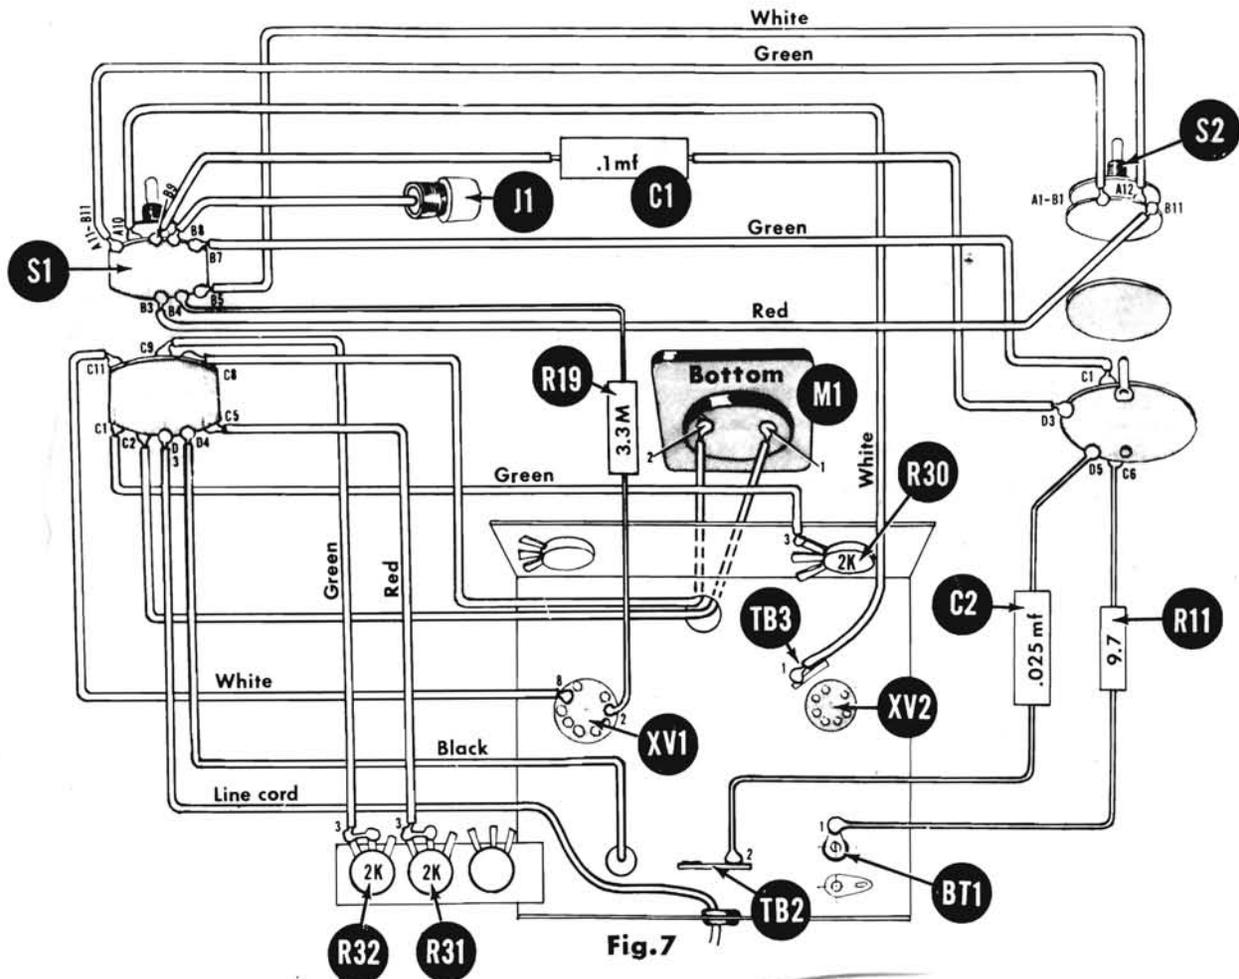

Fig. 7
- () Fig. 7. Connect the 3.3MΩ resistor R19 from XV1-2 to S1-B4 (S).
- () Fig. 7. Connect the white wire from XV1-8 to S1-C11 (S).
- () Fig. 7. Connect the white wire from TB3-1 to S1-A10 (S).
- () Fig. 7. Connect the red wire from R31-3 to S1-C5 (S).
- () Fig. 7. Connect the green wire from R32-3 to S1-C9 (S).
- () Fig. 7. Connect the free lead of the line cord to S1-D3 (S).
- () Fig. 7. Connect the black lead of power transformer T1 to S1-D4 (S).
- () Fig. 7. Connect the green wire from R30-3 to S1-C1 (S).
- () Fig. 7. Connect a 5 in. length of red hook-up wire from M1-1 (S) to S1-C2 (S). Pass lead thru chassis hole.
- () Fig. 7. Likewise, connect a 5 in. length of green hook-up wire from M1-2 (S) to S1-C8 (S).
- () Fig. 7. Connect a length of hook-up wire from J1 (S) to S1-B8 (S). Pass wire thru jack and solder to metal ring in center of plastic.
- () Fig. 7. Mount the prewired range switch S2 to the panel. Switch is in correct position when lug F points to bottom of panel.
- () Fig. 7. Connect the green wire from S2-A1 - B1 to S1-A11 - B11 (S).
- () Fig. 7. Connect the white wire from S2-A12 to S1-B5 (S).
- () Fig. 7. Connect the red wire from S2-B11 to S1-B3 (S).
- () Fig. 7. Connect the green wire from S2-C1 to S1-B7 (S).
- () Fig. 7. Connect the .1 mf capacitor C1 from S2-D3 to S1-B9 (S).
- () Fig. 7. Connect the .025 mf capacitor C2 from S2-D5 to TB2-2 (S).
- () Fig. 7. Connect the 9.7Ω resistor R11 from S2-C6 to BT1-1 (S).